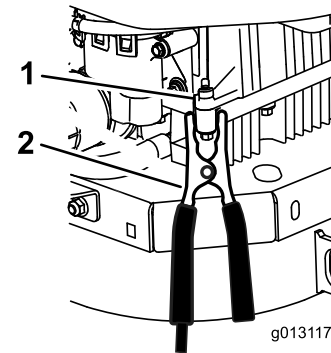

Figure 61
6. **Make the final connection on the engine block of the stalled vehicle (not to the negative battery post) away from the battery and stand back (Figure 61).**